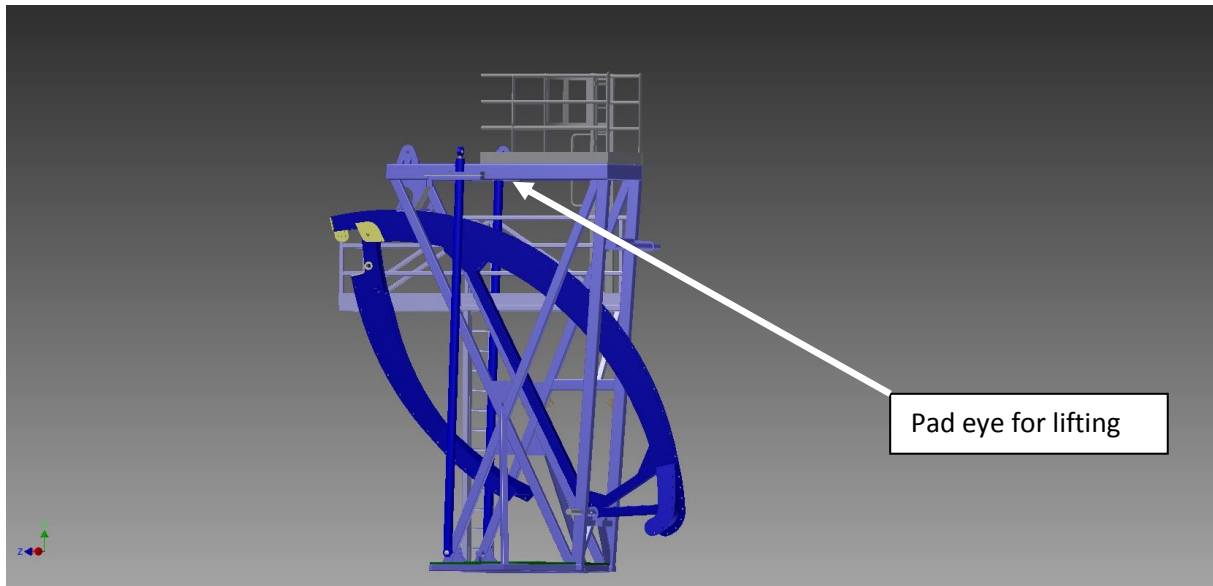

Figure 1.1.1 Gooseneck (NOTE on rev3: gooseneck have been modified by Marotec 2012/2013)
- One gooseneck (Figure 1.1.1)